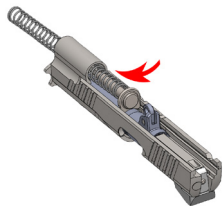

Figure 41
- Insert the recoil spring assembly into the rear of the dust cover of the slide, allowing the foot of the recoil spring guide to sit on the barrel just forward of the barrel link – Figure 41.